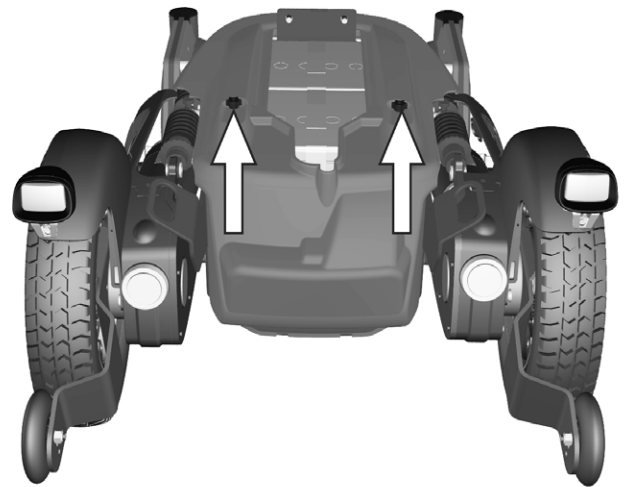

Figure 4. The chassis covers are fitted with two knobs.
4. Remove the two knobs holding the chassis covers. See fig. 4.